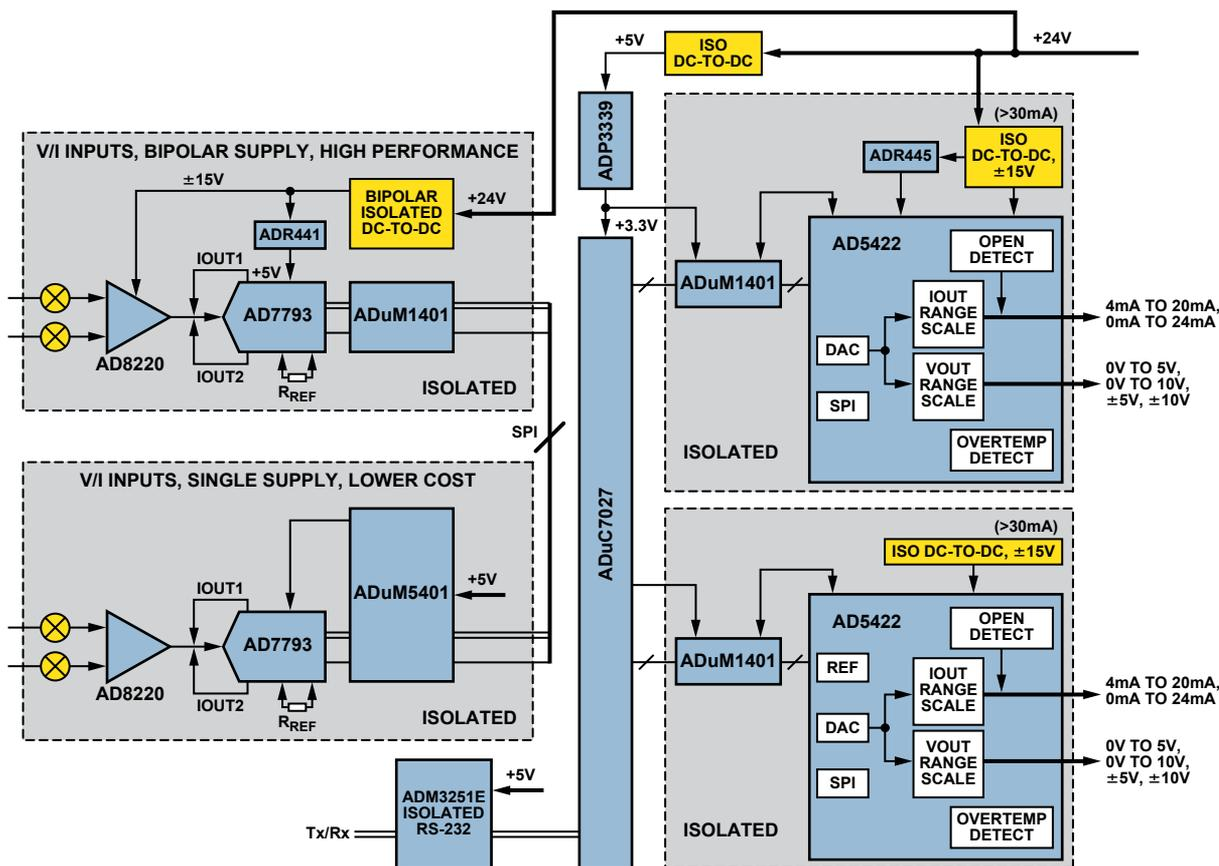

Figure 8. System-level design.
**Complete System:** An overview of the complete system is shown in Figure 8. The ADuC7027 precision analog microcontroller7 is the main system controller. Featuring the ARM7TDMI® core, its 32-bit architecture allows easy interface to 24-bit ADCs. It also supports a 16-bit *thumb* mode, which allows for greater code density if required. The ADuC7027 has 16 kB of on-board flash memory and allows interfacing to up to 512 kB external memory. The ADP3339 high-accuracy, low-dropout regulator (LDO) provides the regulated supply to the microcontroller.